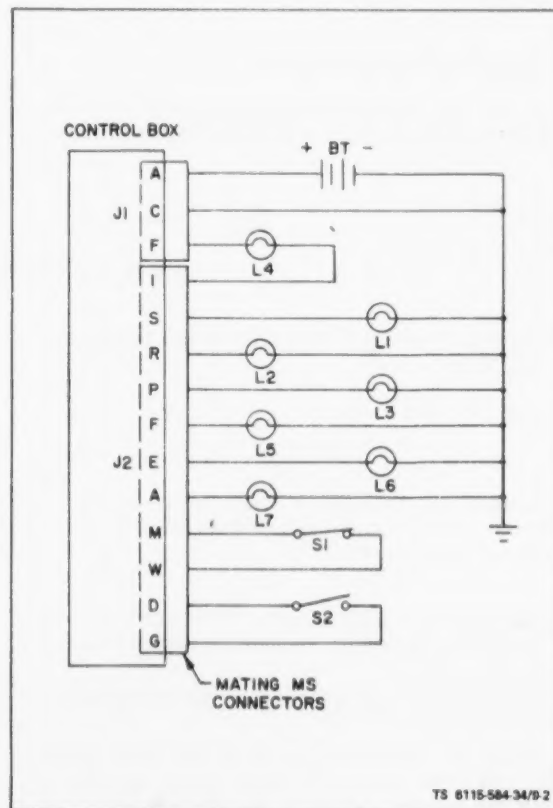

Figure 9-2. Testing Engine Control Circuitry
(1) Batteries, 24 volts lead acid (BT1 and 2).
(2) Switch, SPST (S1, S2).
(3) Lamps, 24V (L1, L2, L3, L4, L5, L6, L7).
b. Test Setup. Connect control box and test equipment as shown in figure 9-2.